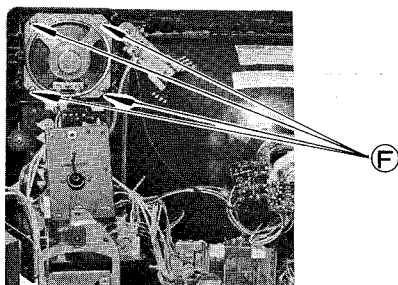

Fig. 7 Abb. 7
2. Remove 4 screws (F) as in fig. 7.